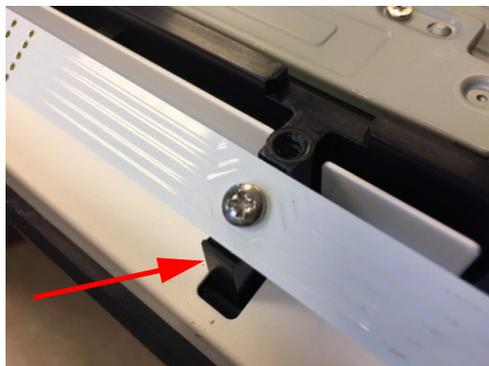

Figure 6
11. Reassemble new RGBW lighting lenses in reverse order. Make sure lighting boards are flush to stop and corner wiring is neatly tucked in. See figure 6. **DOT NOT OVER TIGHTEN SCREWS!**